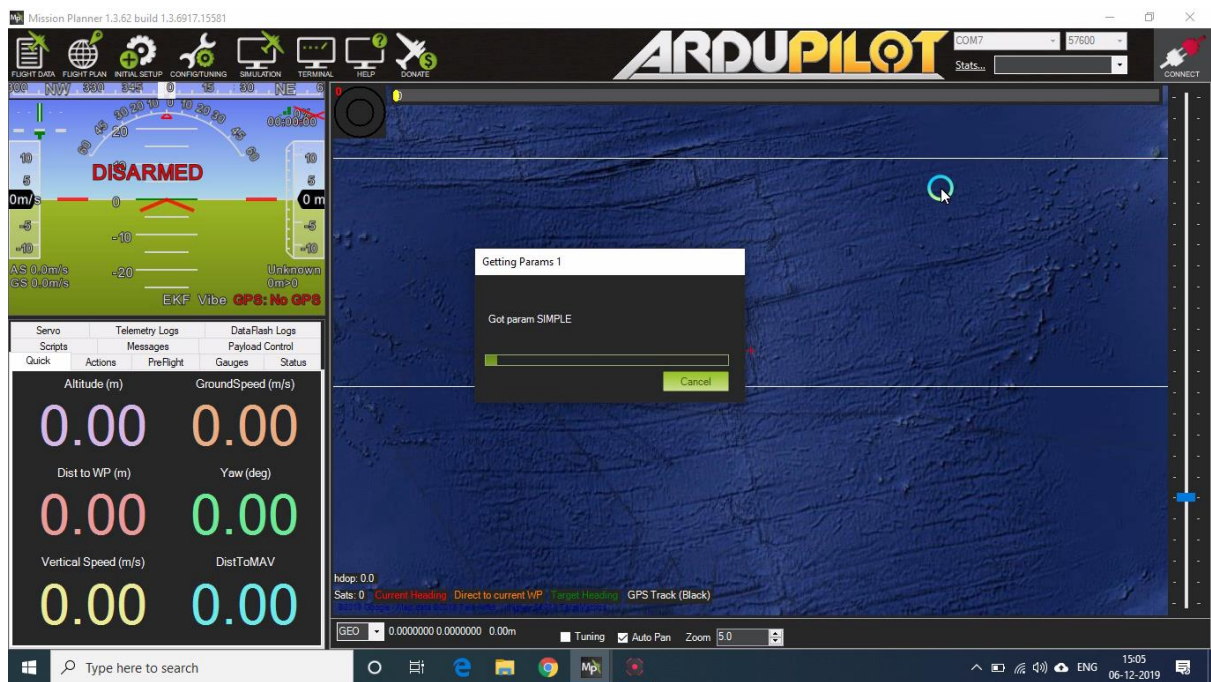

Fig.4.2
- Now, the telemetry module (Ground) receives the parameters from the Flight controller. Refer Fig.4.2.